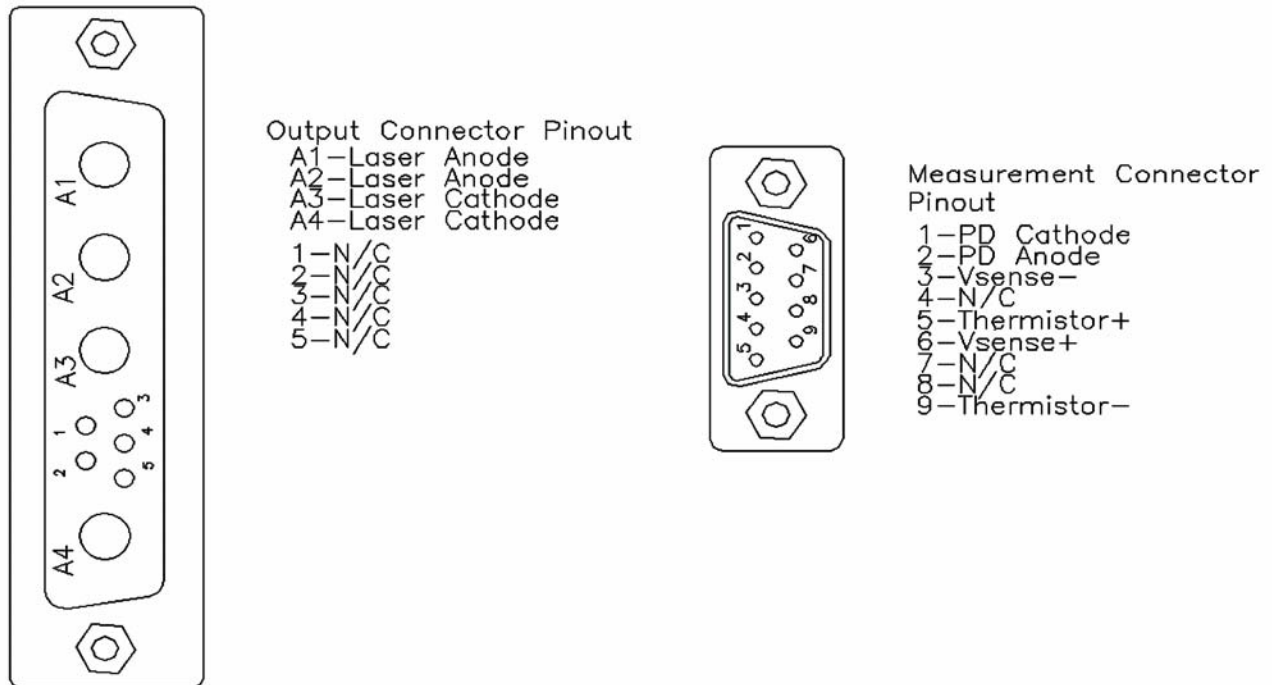
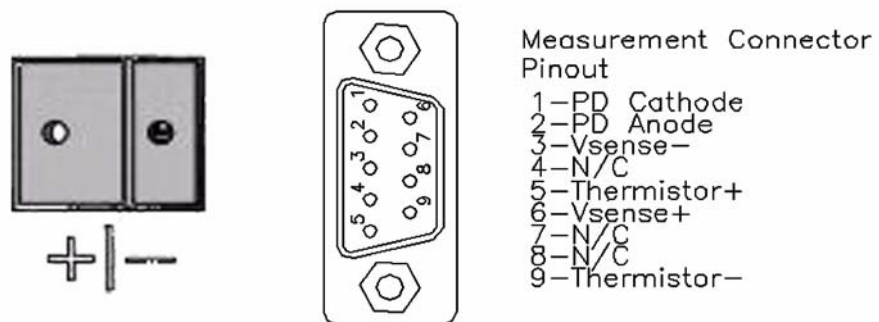

Figure 3.2 LDX-36000 Output and Measurement Connector Pin Assignments, <50A
Figure 3.3 LDX-36000 Output and Measurement Connector Pin Assignments, >50A
For the LDX-36000 Series models, the current source output connector is either a combination D 9W4 connector on models with less than 50A output (CW), Figure 3.2, or high current terminals on models with more than 50A output (CW), Figure 3.3. Laser voltage, photocurrent, and temperature measurement functions are accomplished through a separate DB-0 connector labeled “Sense” directly above the high current output connector.
In order to enable the laser current output, all interlocks on the instrument must be satisfied. There are two separate interlocks accessible from a terminal block on the rear panel (Figure 3.3). The terminals from both sets must be shorted to enable the output.
The LDX-36000 will measure and display forward voltage when the output current is enabled. Voltage measurement is only possible when the voltage sense lines from the rear panel measurement connector are attached directly to the laser diode. If these lines are not used, measurements will always read zero. Voltage measurement through the output cable is not possible. These lines are available on the back panel connector labeled Sense. Refer to Figure 3.2 the pinout.
The photodiode and laser connections are electrically isolated from ground and each other. To measure photocurrent from an external photodiode, the photodiode anode and cathode must be connected to two pins on the back panel 9-pin connector labeled Sense. Refer to Figure 3.2 for the pinout. Shielding of the photodiode connections is recommended to reduce measurement noise. A common connection between the laser anode or cathode and photodiode will cause measurement errors. This condition should be avoided.